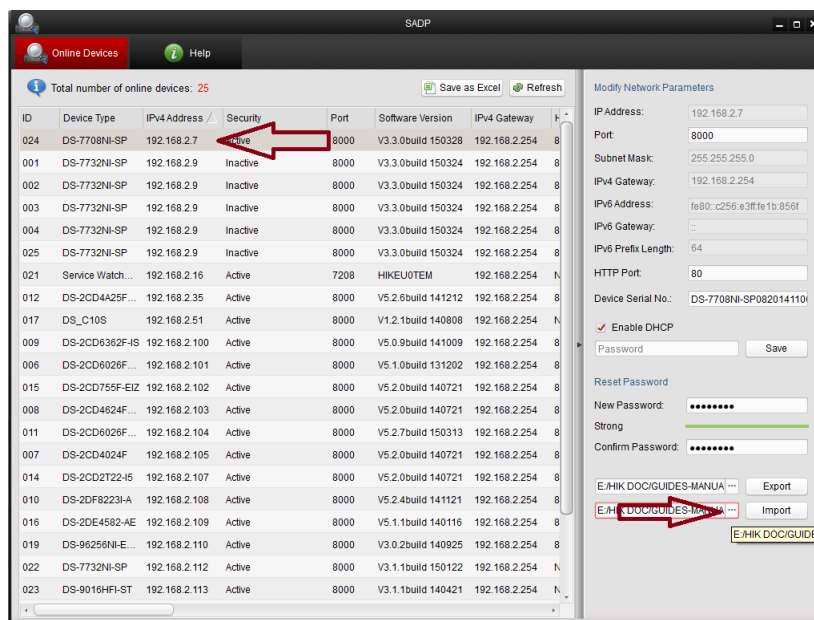

Figure 120 Select device again and click [Browse] to locate the path where you saved the "Encrypt.xml" file
7. In the SADP Tool, highlight the device again, click **[Browse]** (...), and select the path where you saved the "Encrypt.xml" file (Figure 120).